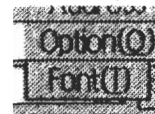

Figure 4-39
④ "Option(O)" pull-down menu (Figure 4-39)